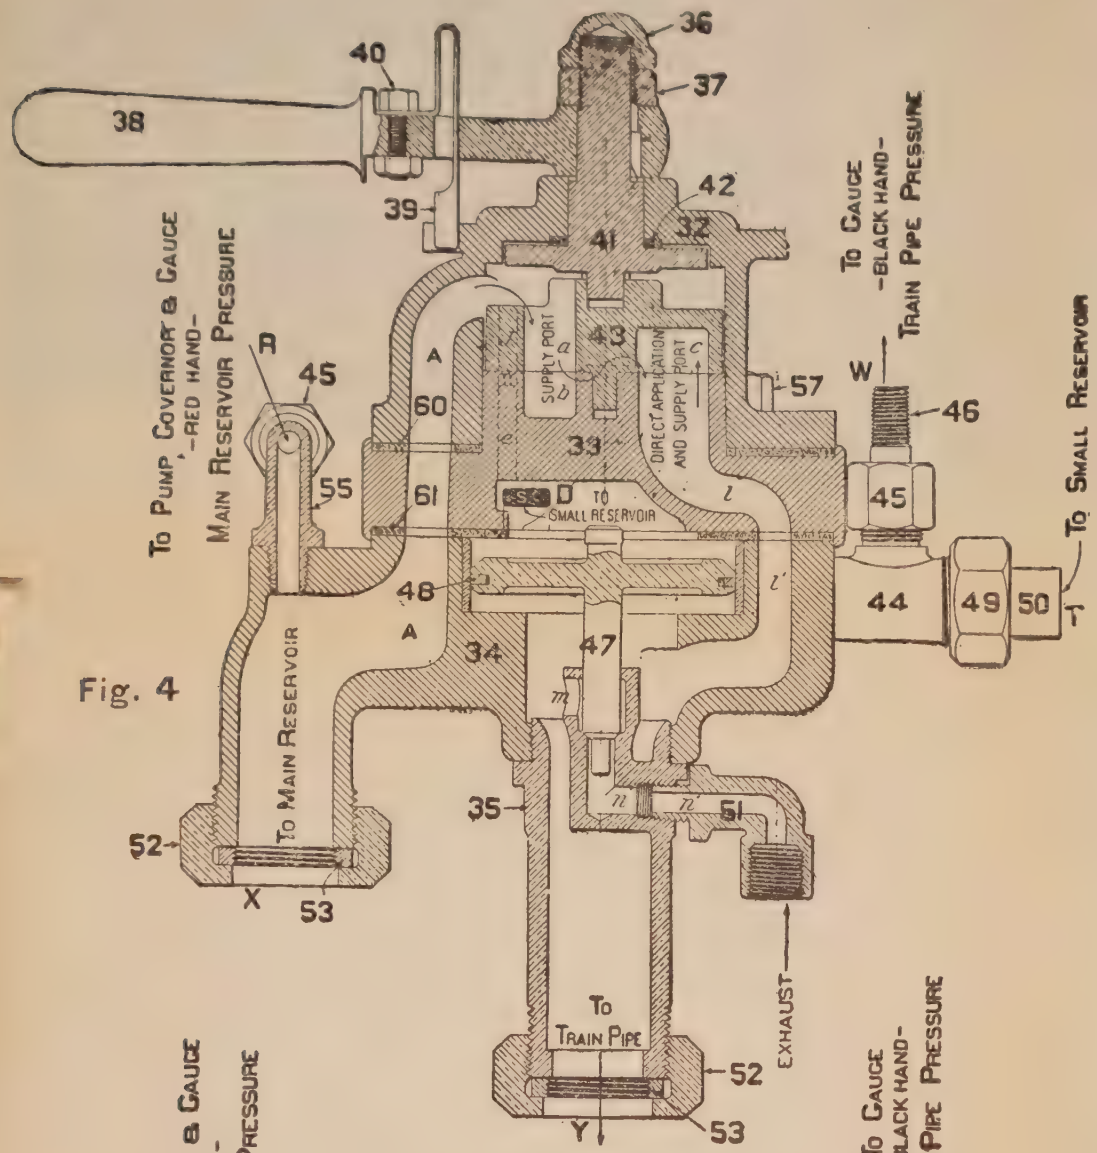

Fig. 4
A. As shown in figures 4, 5 and 6, plate IV, the valve is so arranged that when the handle is in "running position" the pressure in the train-pipe is cut-off automatically at 70 pounds, no matter what higher pressure there is in the main reservoir; and any loss in the train-pipe, from leakage, is automatically supplied. The amount of excess pressure to be carried in the main reservoir to permit the recharging and releasing promptly, is regulated by the pump-governor, which will stop the pump when the maximum pressure is reached. The pump-governor does not control the train-pipe pressure. It is not necessary to have in the main reservoir the excess of 20 pounds or more, before air can be supplied to the train-pipe to make up for leakages when the handle